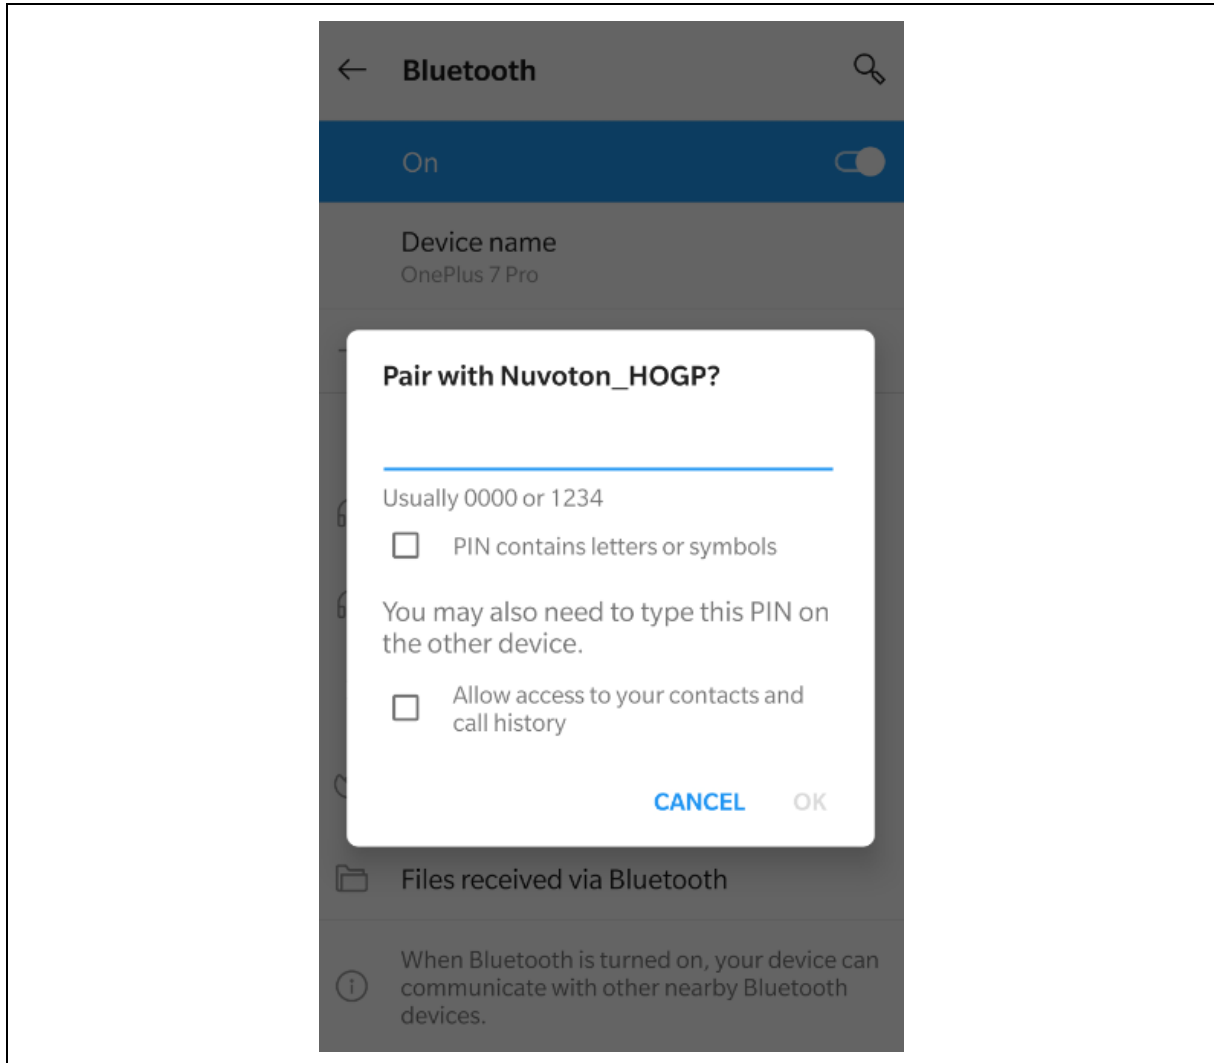

Figure 4-15 Input Bluetooth Pairing PIN in Mobile
- Find the device “Nuvoton\_HOGP” and click it. You can see that it asks you to enter the PIN code to pair, as shown in Figure 4-15. Please input the pairing key you get in Step 1 to connect the device.